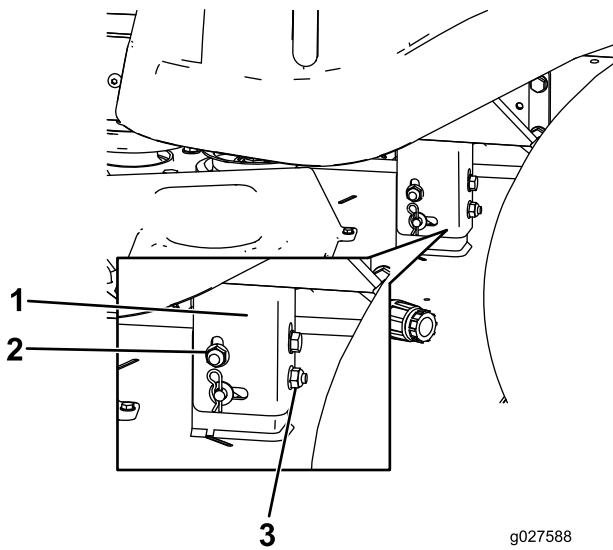

Figure 71
8. Raise or lower the left side of the mower deck by rotating the rear nut (Figure 71).
Note: Rotate the rear nut clockwise to raise the mower deck; rotate the rear nut counter-clockwise to lower the mower deck (Figure 71).